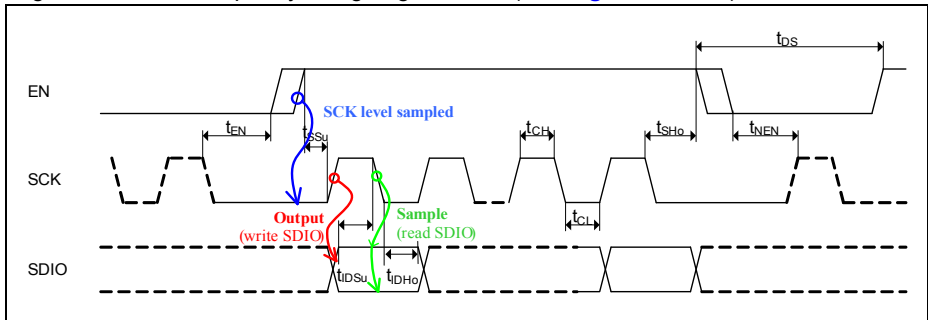
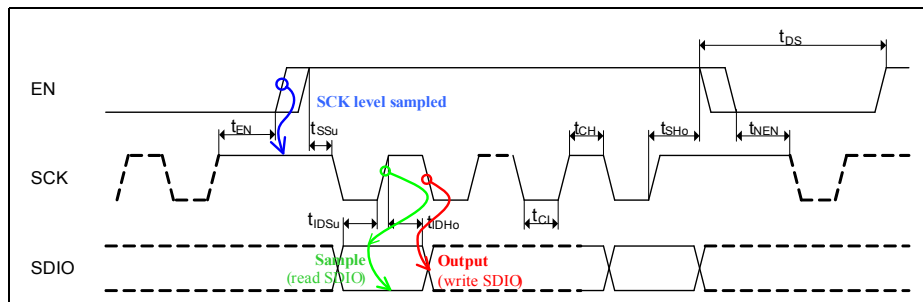

Figure 6 SPI Timing — SCK low at rising edge of EN
Figure 7 SPI Timing — SCK high at rising edge of EN
- **EN** - **enable input** with embedded pull-down resistor. High level on EN input enables the SPI transmission. The rising edge of the EN signal triggers the selection of the active SCK edge (for the consequent data transfer, until the EN line goes again in low state) and transmission/ sampling of data between the device and the microcontroller can start. For details refer to Figure 6 and Figure 7.
- SCK** - clock input pin with embedded pull-down resistor. If SCK is at low level while EN goes high, the incoming SDIO data is sampled by falling edge of the SCK and the output SDIO data is set by the rising edge of SCK. Contrariwise, If SCK is at high level when EN goes high, the SDIO data is sampled with the rising edge of the SCK clock and output on SDIO by falling edge of the SCK clock. For details refer to Figure 6 and Figure 7.
If SCK is low at that moment, the incoming SDIO data will be sampled with the falling edge of SCK, and output by rising edge of SCK (see Figure 6 below).
If SCK is high during occurrence of rising edge on EN, incoming SDIO data is sampled with the rising edge on SCK, and output by falling edge of SCK, as illustrated in Figure 7.